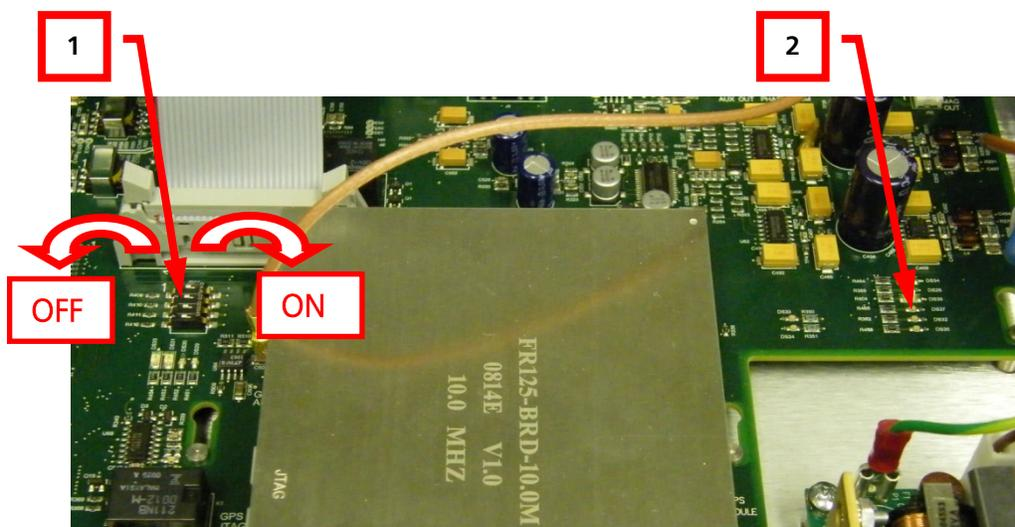

Figure 25 – Factory Defaults Reset Components
3. An array of four switches is located adjacent to the top left corner of the GPS unit, see Figure 25 item #1. Note that these switches may be covered by a thin film that is necessary for the manufacturing process. This film must be removed in order to operate the switches.
4. Move switch number 4 to the on position (if it's already in the on position, switch to off and switch on again), and wait for LED DS32 which is located in an array of LEDs all the way to the right of the circuit board on the other side of the GPS receiver, see Figure 25 item #2.